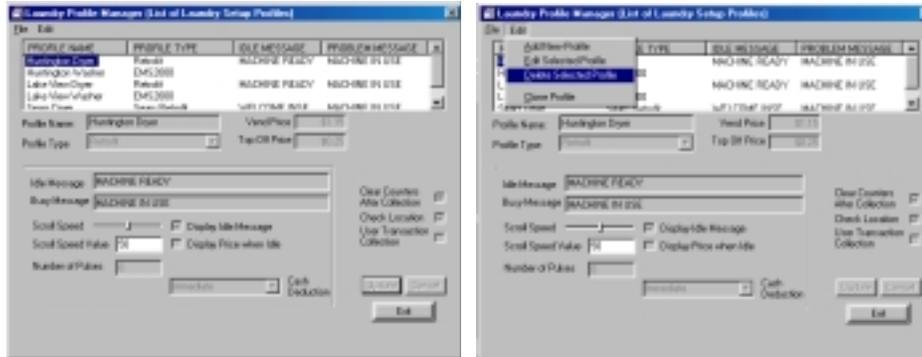

Figure 8.11 Deleting a Laundry Profile
2. Click the profile to delete from the Profile List Window (Figure 8.11).
3. Select Delete Selected Profile from the Edit drop-down menu (Figure 8.11).